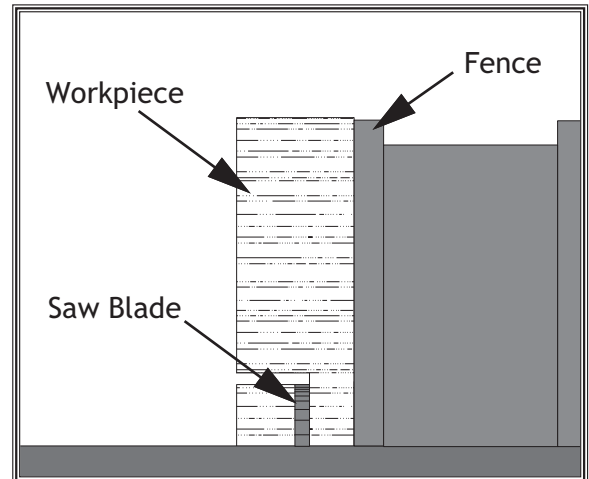

Figure 54. Second cut to create a rabbet.
9. Stand the workpiece on edge as shown in Figure 54.